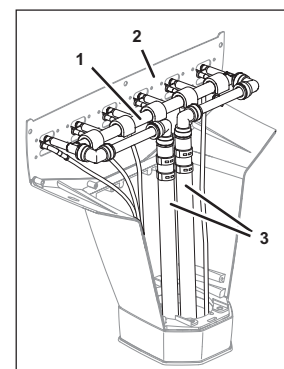

Fig. 52
2. Remove the tubes (Fig. 52/3) on the soda dispenser (Fig. 52/1).
3. Lift and remove the soda dispenser (Fig. 52/1) from the dispensing valve support (Fig. 52/2) and from the unit in an upward motion.
4. Position the new soda dispenser (Fig. 52/1) within the dispensing valve support (Fig. 52/2) and the unit.
5. Attach the tubes (Fig. 52/3) to the soda dispenser (Fig. 52/1).